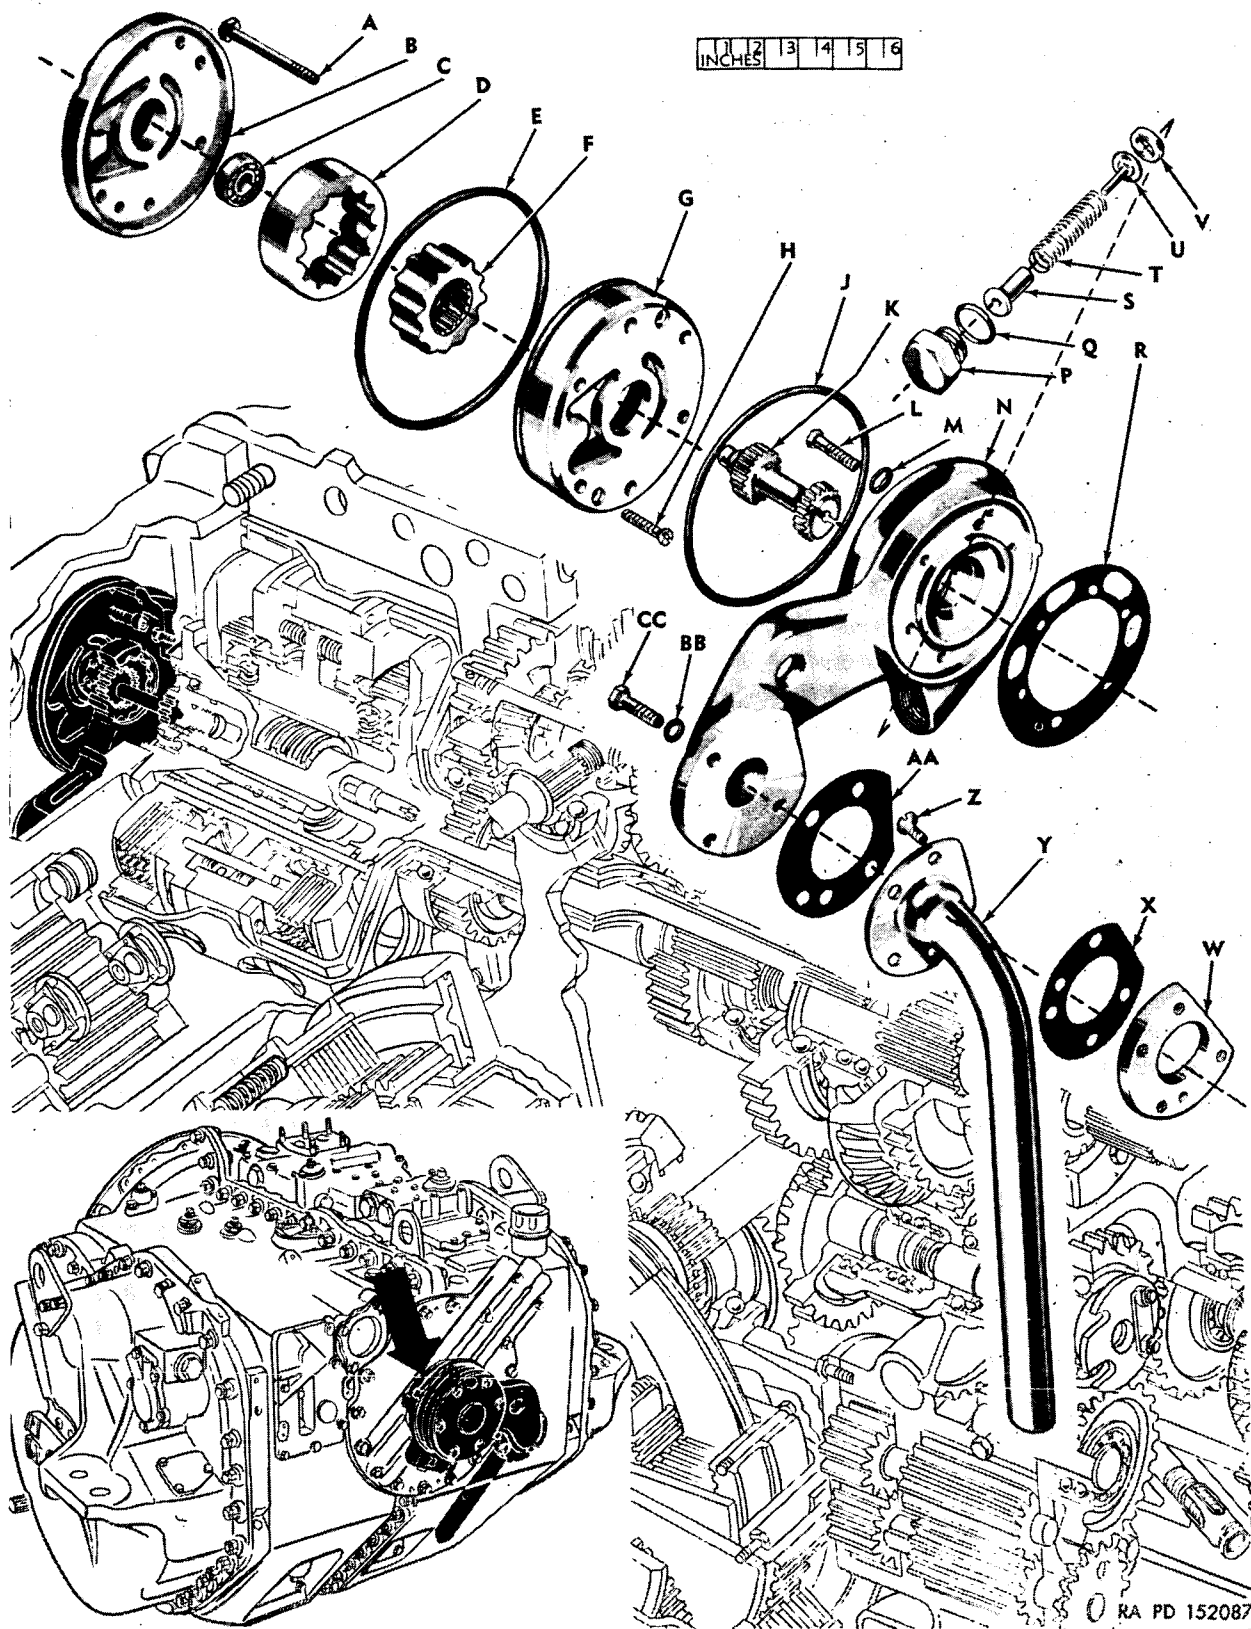

Figure 348. Steering-clutch coolant pump, manifold, regulator valve and pick-up tube—exploded view.
(fig. 348).
Remove two screws (H of fig. 348) from the steering-clutch coolant pump body, using a screwdriver. Lift the body from the cover (fig. 349). Lift the outer rotor from the pump cover (fig. 350). Remove the inner rotor from the cover.
b. BEARING. If the ball bearing (C of fig. 348) in the pump cover is defective, pry it out. Install a new bearing using an arbor press or drift.
Install the inner rotor in the steering-clutch coolant pump cover. Install the outer rotor over the inner rotor (fig. 350). Install the "O" ring gasket in the pump cover. Install the body on the cover (fig. 349). Install two $\frac{1}{4}$ -inch screws (H of fig. 348) in the steering-clutch coolant pump body.